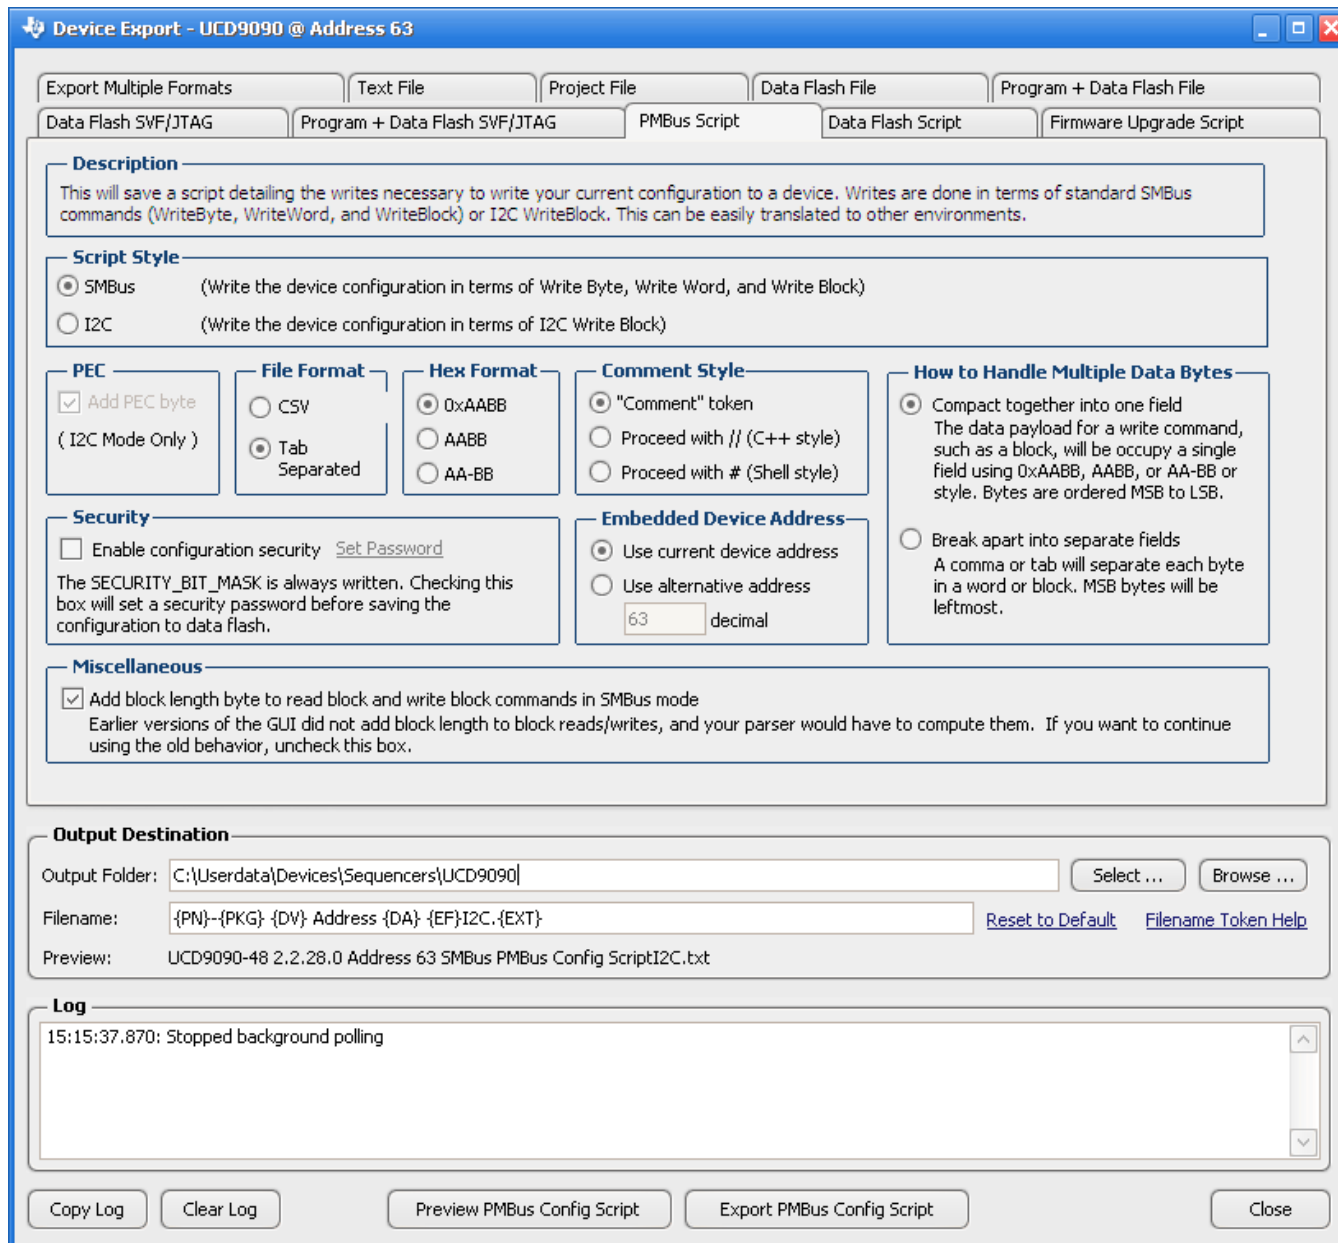

Figure 30. Fusion GUI PMBus Configuration Script Export Tool
- The *Fusion GUI* (Figure 30) can create a PMBus or I2C command script file that can be used by the I2C master to configure the device. This method may cause unexpected behaviors on GPIO pins which can disable rails that provide power to device. It is not recommended for production programming.